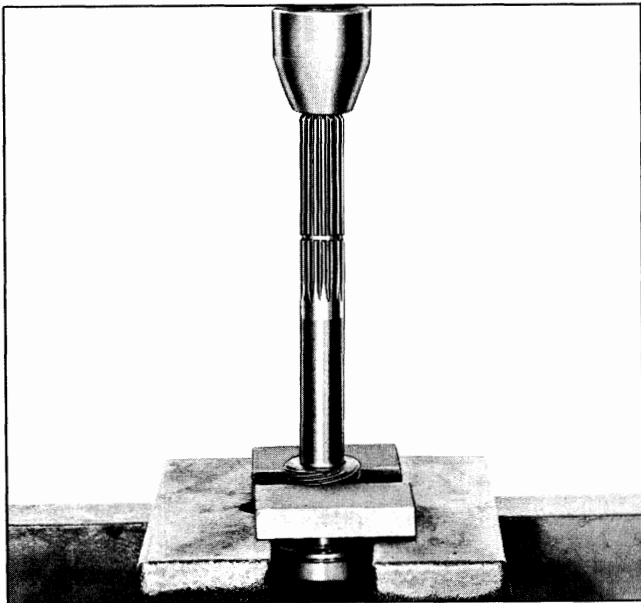

Fig. 7-22 Removing Speedometer Drive Gear
2. Press speedometer drive gear off mainshaft, using suitable split plates in an arbor press (Fig. 7-22).